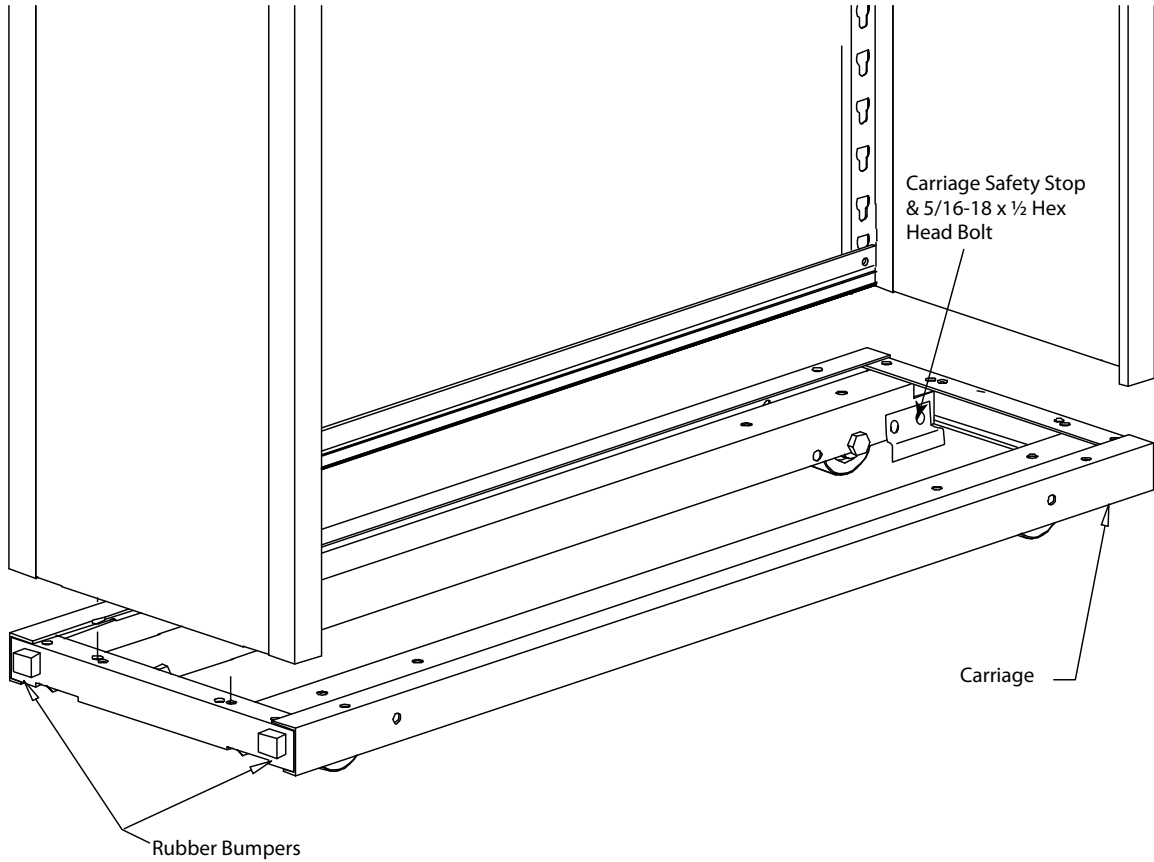

FIGURE 7
- STEP 1 Install Carriage(s) onto Deck assembly. Install the Carriage Safety Stops to the outside of the wheel's main beam(s). See Figure 7 . Attach the Carriage Safety Stops with two (2) 5/16–18 x 1/2 hex head bolts.
- STEP 2 Peel protective backing on adhesive on two (2) Rubber Bumper squares. Adhere to both sides of Carriage at the bottom. See Figure 7 .